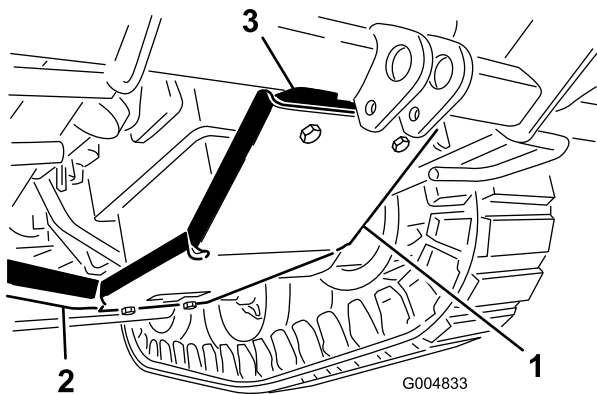

Figure 31
2. Install the skid plate (Figure 31) to the frame below the engine as follows:
- A. Mount the front of the skid plate to the skid mounting plate with 2 flange-head bolts (3/8 x 1-3/4 inches) and flange nuts (3/8 inch) (Figure 31).
- B. Mount the rear of the skid plate to the frame cross member with 2 bolts (3/8 x 1 inch) and flange nuts (3/8 inch) (Figure 31). Install the rear bolts from the top.